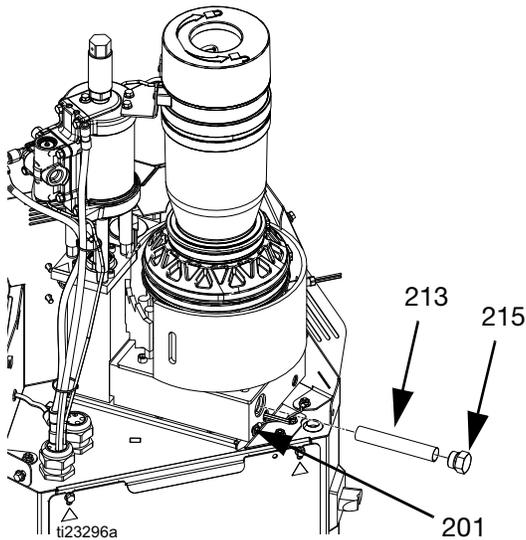

FIG. 24
To ensure the adhesive is a gel, not a liquid, do not remove inlet filter cap (215) when the temperature is above the desired temperature. If the temperature is too low, the adhesive viscosity may be too high to remove the inlet filter (213). See FIG. 24, page 42.